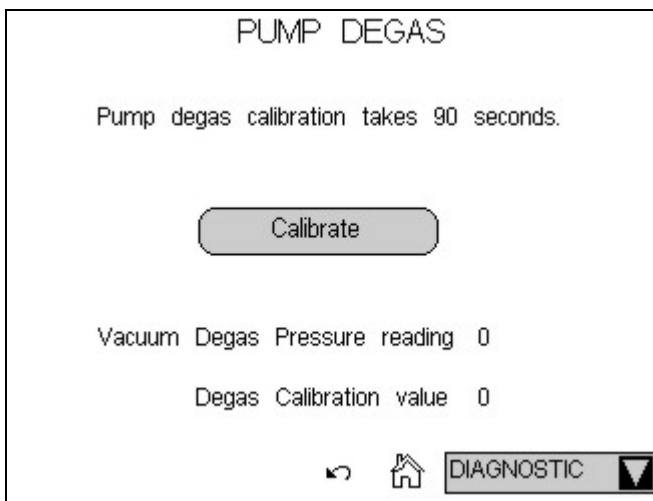

Figure 5-6. Pump Degas Page
1. Open the Dionex ICS-2100 Wellness Panel in Chromeleon (see Section 5.1.1), or open the Dionex ICS-2100 touch screen **PUMP DEGAS** page (see Figure 5-6).